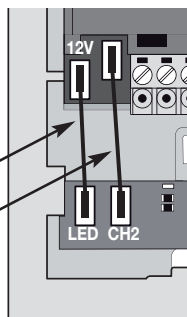

Fig. 4
- Make the connections to the installation on the removable terminal block (L).
- Remove the blanking module (E) Fig. 4, from the back of the plate using a screwdriver, working in sequence from bottom to top (first remove the end section, then key 1 and finally the blanking module).
- Fit the external key (F) (supplied) to the plate by pushing it lightly into place.
- Insert the light diffuser (H) to ensure even lighting of the name cards.